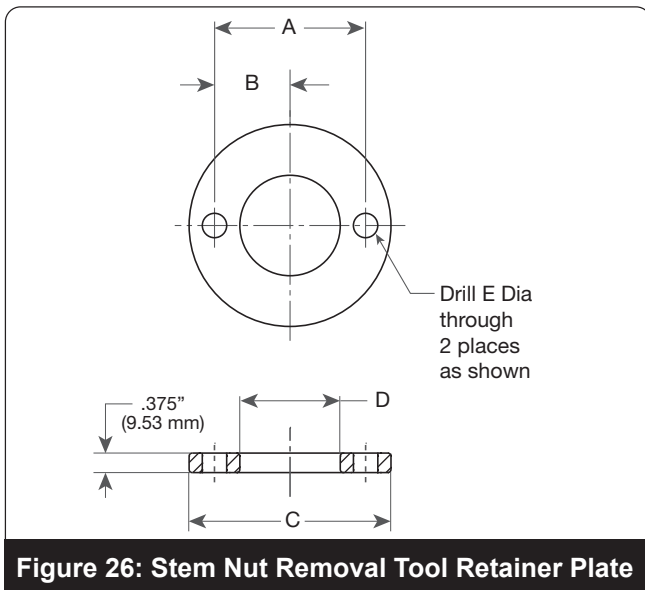

Figure 26: Stem Nut Removal Tool Retainer Plate
2. Stem nut remover retainer plate (see Figure 13b for part number). For manufacturing dimensions see Figure 26 and Table 8.